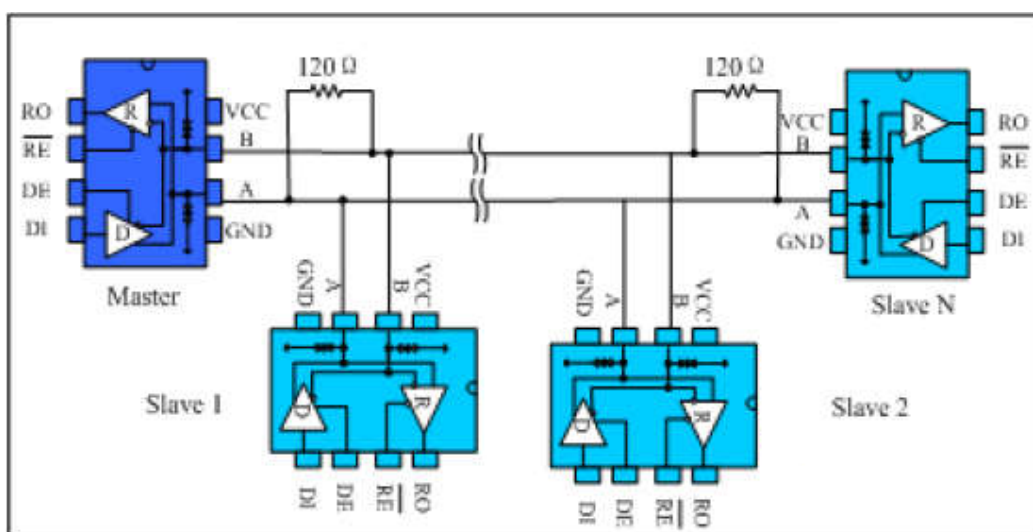

Fig. 9 Bus-type RS485 half-duplex communication network
**4.1 Bus networking:** The MAX3485E RS485 transceiver is designed for bidirectional data communication on multi-point bus transmission lines. Figure 9 shows a typical network application circuit. These devices can also be used as linear repeaters with cables longer than 4000 feet. In order to reduce reflections, terminal matching should be done at both ends of the transmission line with their characteristic impedance, and the length of the branch wires other than the main line should be as short as possible.